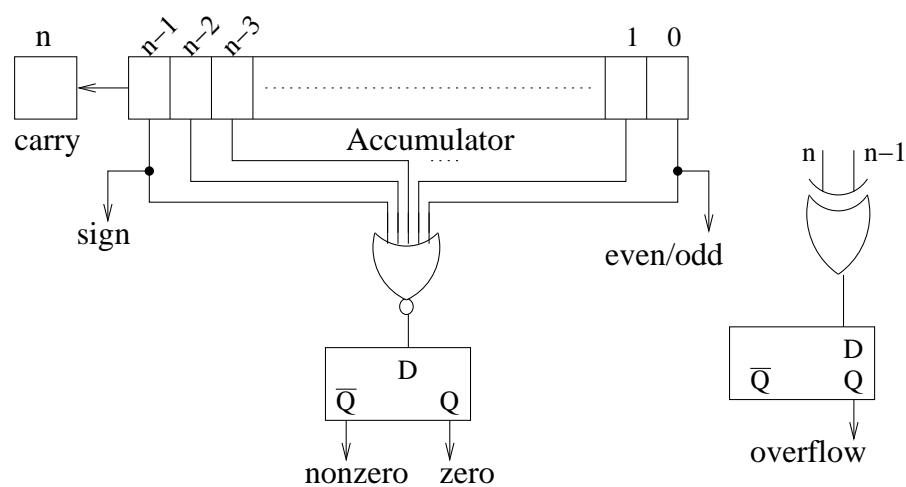

Figure 17: Setting condition flags
**Conditional branch** The conditions (jump on zero/non-zero, jump on positive/negative, jump on parity, jump on carry, jump on even/odd, jump on overflow etc) can be tested from flags (Figure 17).